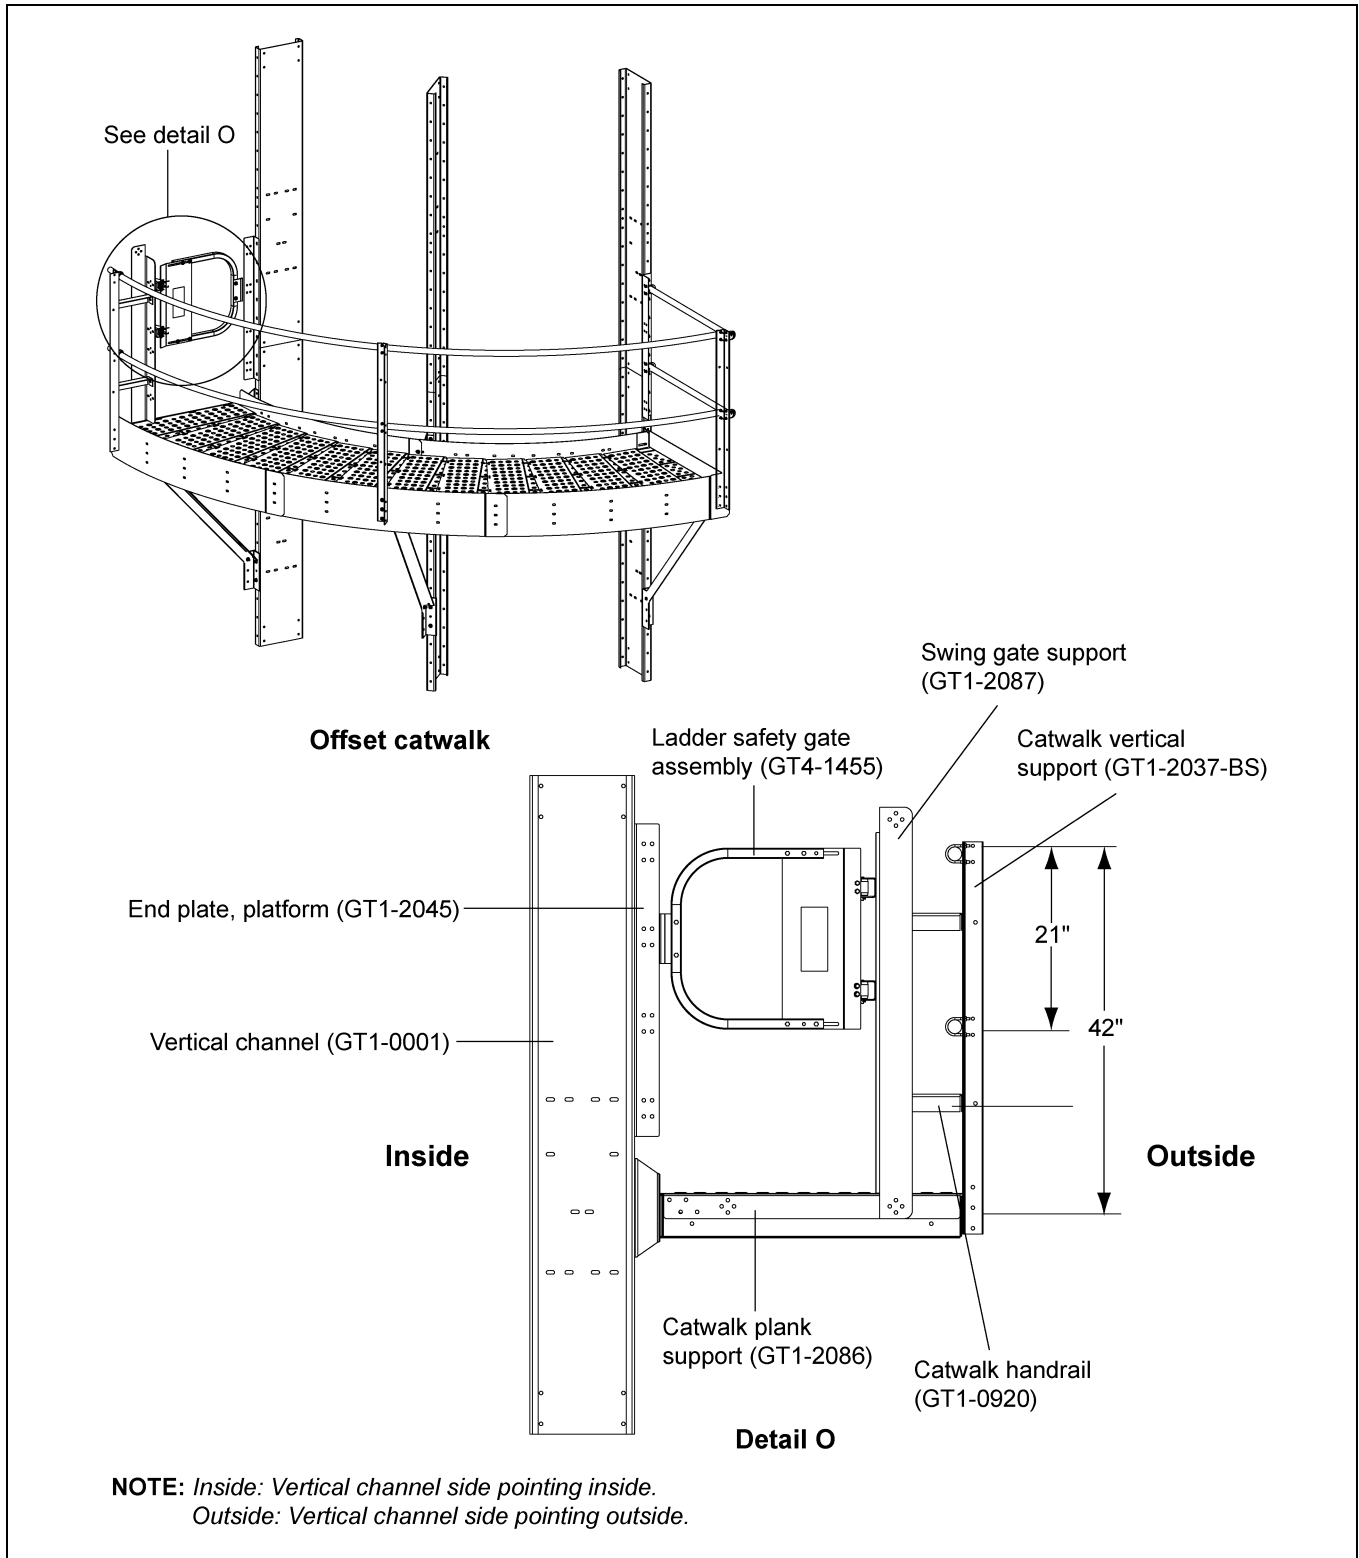

Figure 6Y Offset Ladder Safety Gate Assembly to Swing Gate Support (GT1-2087)
3. Install the ladder safety gate assembly (GT4-1455) to the swing gate support (GT1-2087) using 3/8"-16 x 1" JS grade 8 or grade 8.2 bolts (S-7485) and 3/8"-16 ZN grade 5 nuts (S-968). The distance between the plank and handrail is 42". (See Figure 6Y below and Figure 6Z on Page 64.)